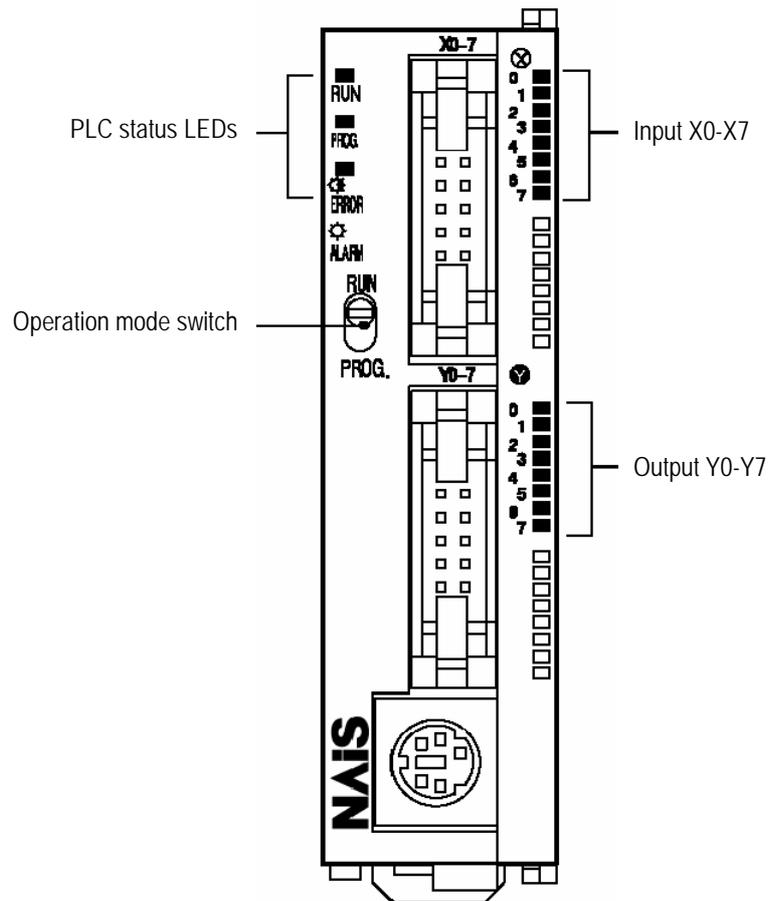

Fig. 3: Control elements at the PLC.
The plugs (1) and (2) are located on two of the cables that are already plugged into the PLC board (fig. 3).
The plugs (1), (2) and (3) are located on two of the cables that are already plugged into the PLC board (fig. 3).